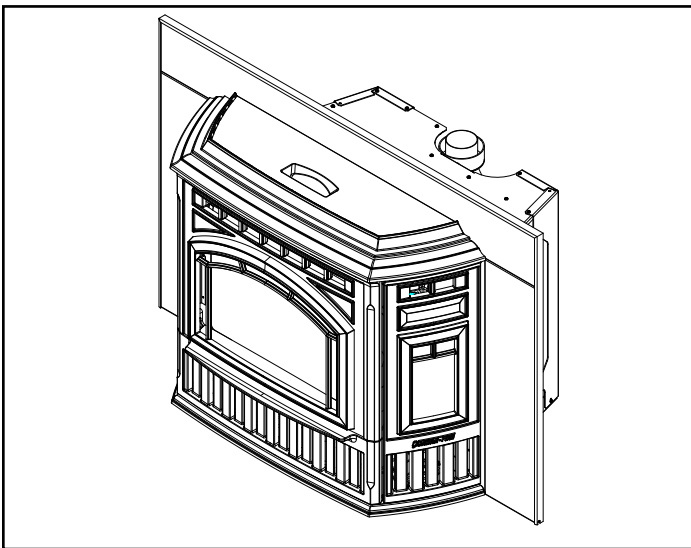

Figure 20.2 - Completed View
9. Carefully slide surround and trim over the top of the insert into place matching the mounting holes on the panel with the mounting holes on the insert. Secure with screws provided. (Figure 20.2)